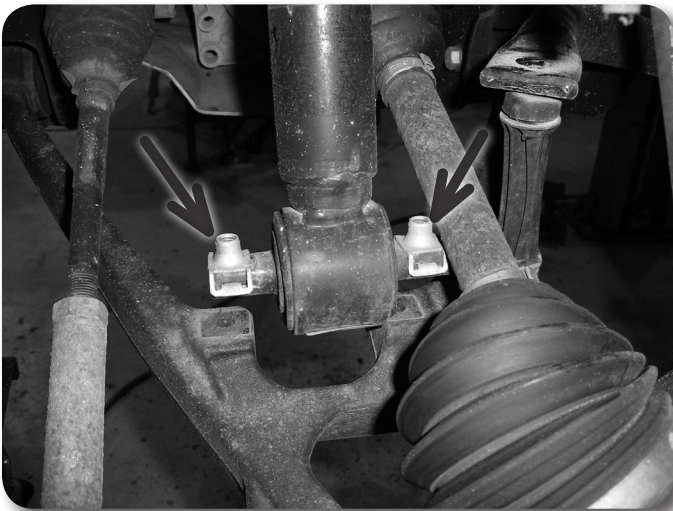

Figure 6
8. Using a flat head screw driver, remove the factory nut clips from the strut bar pins. **Figure 6** These will not be reused.